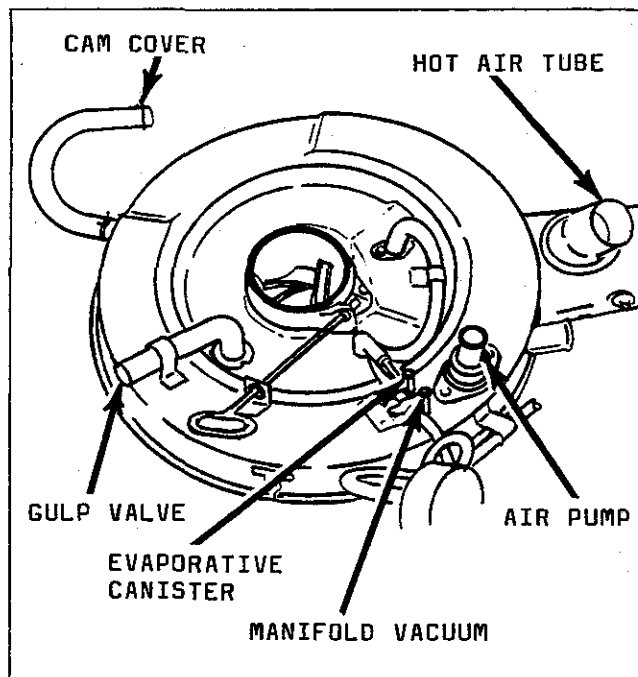

Figure 1
5. Disconnect the following lines from the air filter. Identify removed lines to aid in reassembly. See figure 1.
23. Reconnect the lines removed in steps 5a through 5f to the air cleaner. See figure 1.